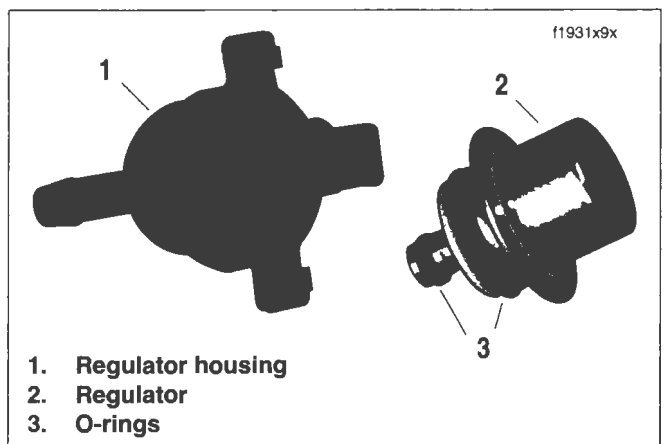

Figure 4-46. Fuel Pressure and Housing
4. See Figure 4-46. Apply a thin coat of clean engine oil to new regulator O-rings.